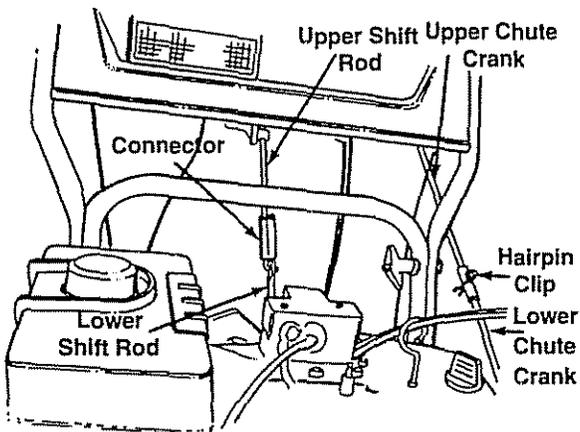

Figure 3
10. Slide the shift rod connector down over the end of the lower shift rod. See Figure 3. Tap the connector until it **locks** on the lower shift rod.
11. Remove the hairpin clip from the end of the upper chute crank. Slide the upper chute crank into the lower chute crank. Align the holes, and secure with hairpin clip. See Figure 3.